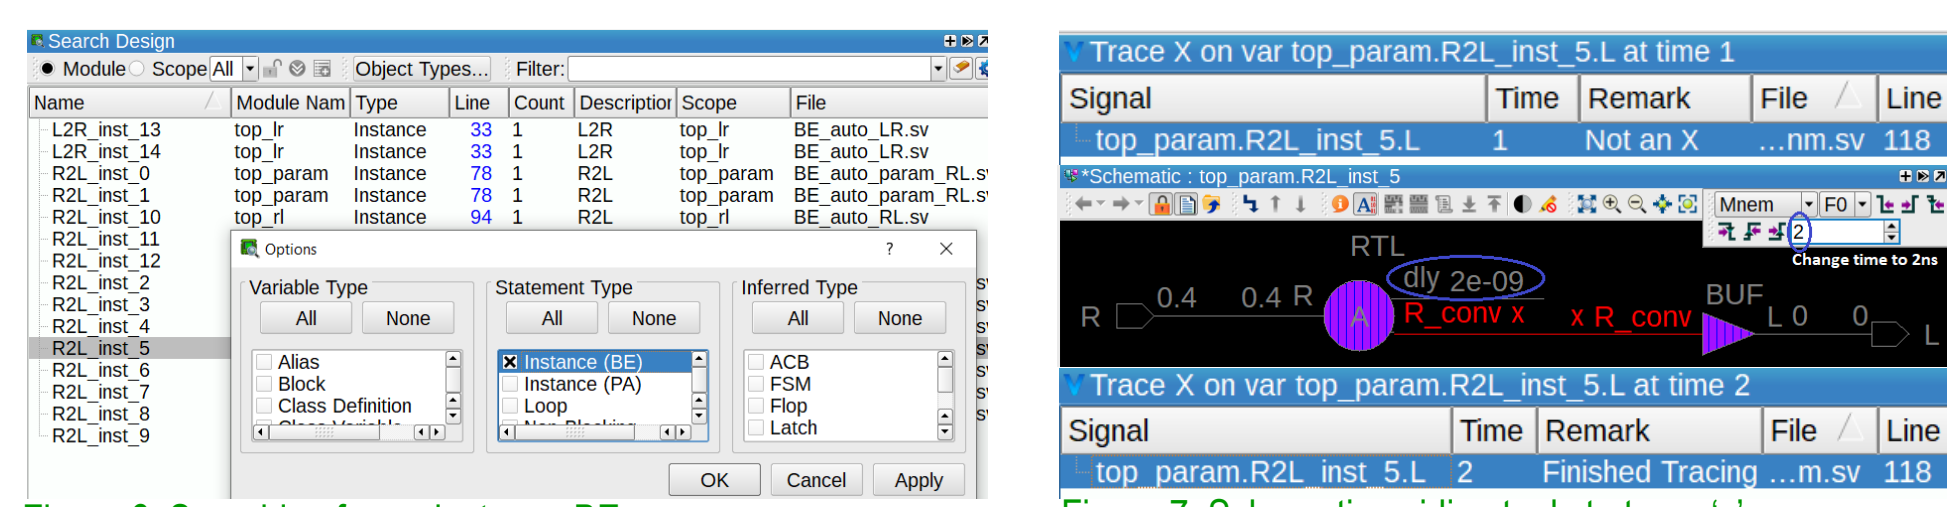

Figure 6: Searching for an instance BE
- The tool should define it as a separate instance. This helps to know how many BEs are inserted, where they are inserted and what type of the BE is inserted (R2L, L2R) as shown in Figure 6.